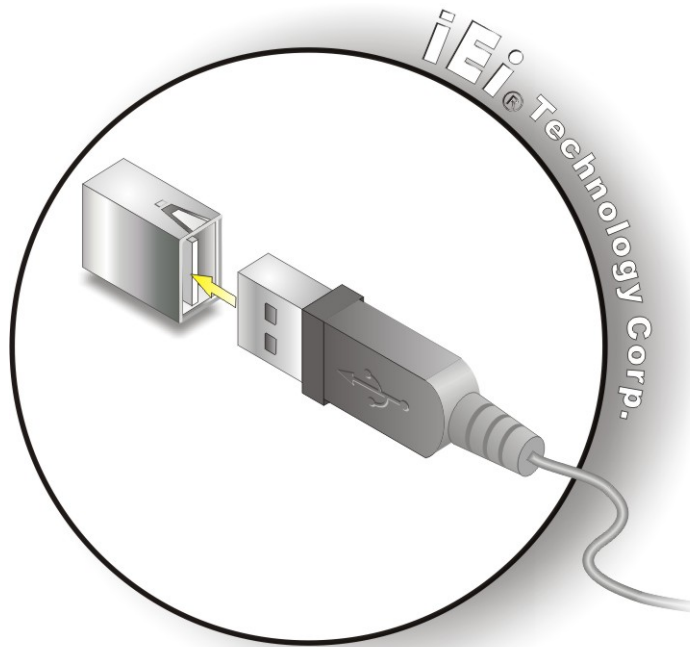

Figure 4-13: USB Device Connection
Step 2: Align the connectors. Align the USB device connector with one of the connectors. See Figure 4-13.